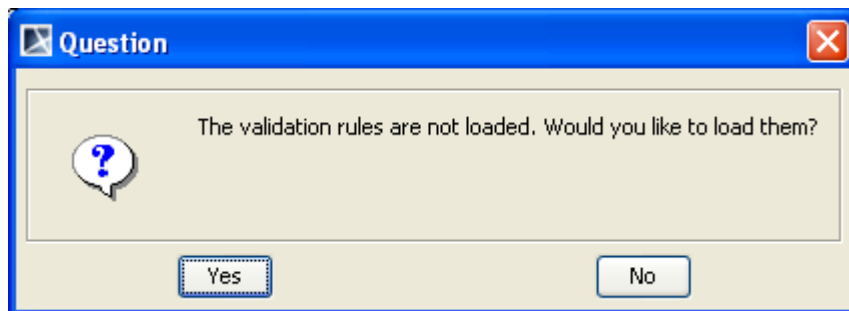

Figure 38 -- Dialog Prompting the Validation Rules
4. Execute your model. A dialog will open, asking whether you want to load the required profiles that contain the validation rules to validate your model (if your project does not contain the required validation rules) (Figure 38).